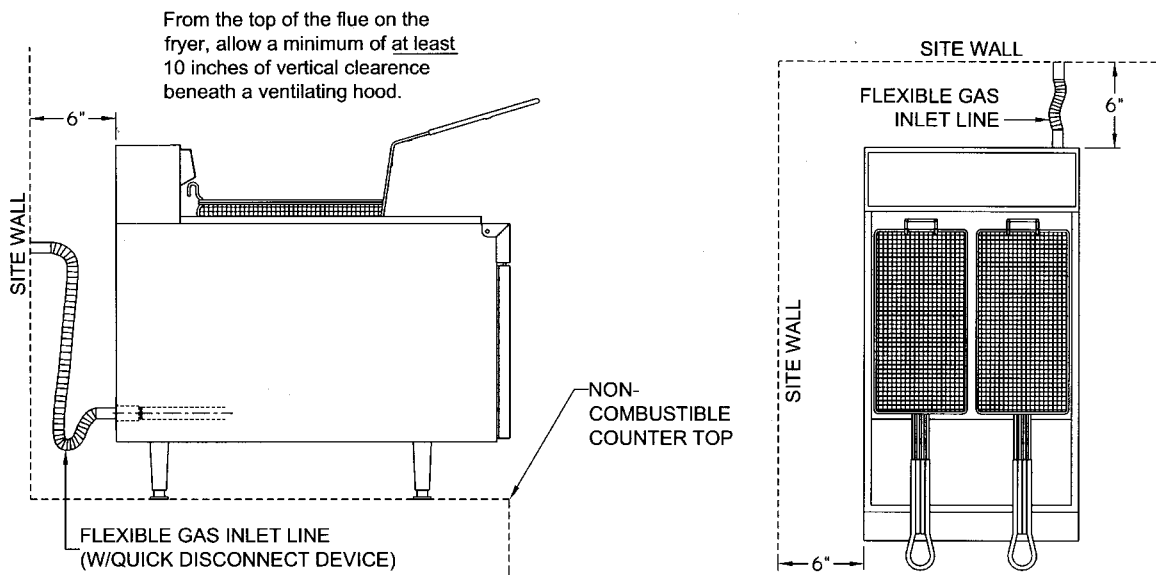

Figure 2. Fryer Site Installation Requirements
- c. Install this fryer on a non-combustible surface with its back and sides at least 6" away from any combustible wall, as shown in Figure 2.